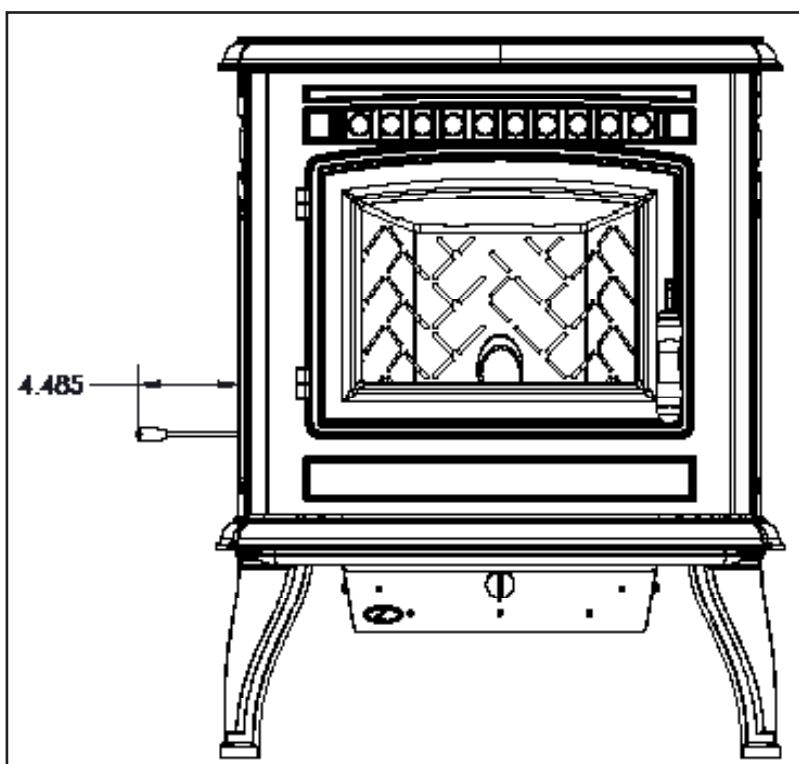

Figure 32: Slider / Damper Open
2. Slip the surround panel down behind the unit as shown in Figure 32.